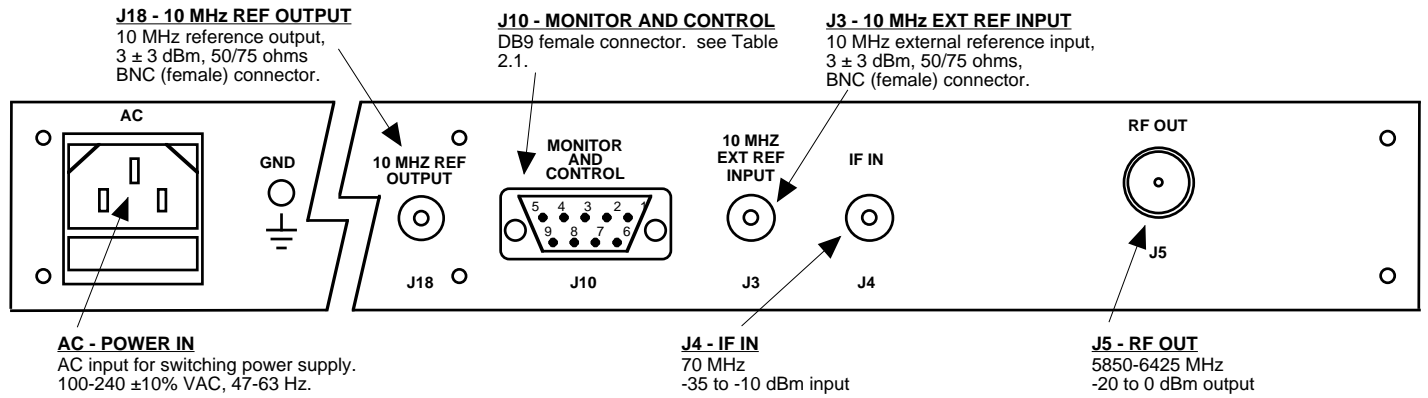

FIGURE 2.2 2015-58 Rear Panel Inputs and Outputs
2.2 Rear Panel Input / Output Signals - Figure 2.2 shows the input and output connectors on the rear panel.
1. Connect a -35 dBm to -10 dBm, 70 MHz signal to IF IN, J4 (Figure 2.2)
Alarm indications appear on the LEDs (see figure 2.2).